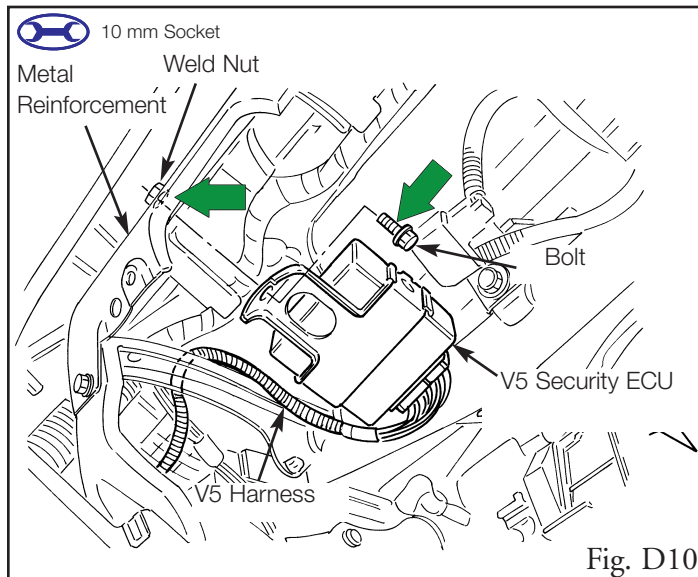

Fig. D10
10. Using the supplied bolt, secure the V5 Security ECU to the metal reinforcement. (Fig. D10)